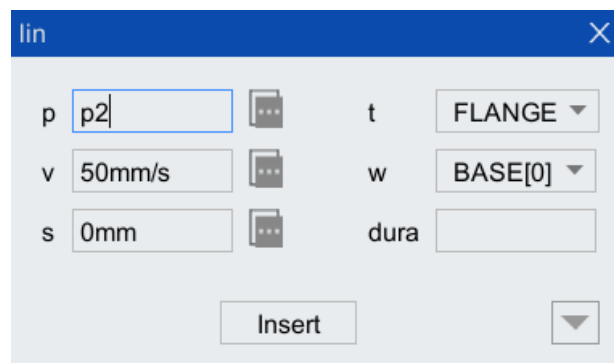

Figure 10-19 The lin instruction configuration interface
- Step3. Move the cursor between "mpstart" and "mpend". Click [lin] to pop up the lin configuration interface (as shown in Figure 10-19), complete the parameter configuration, and click <Insert> to generate the arc starting point command.